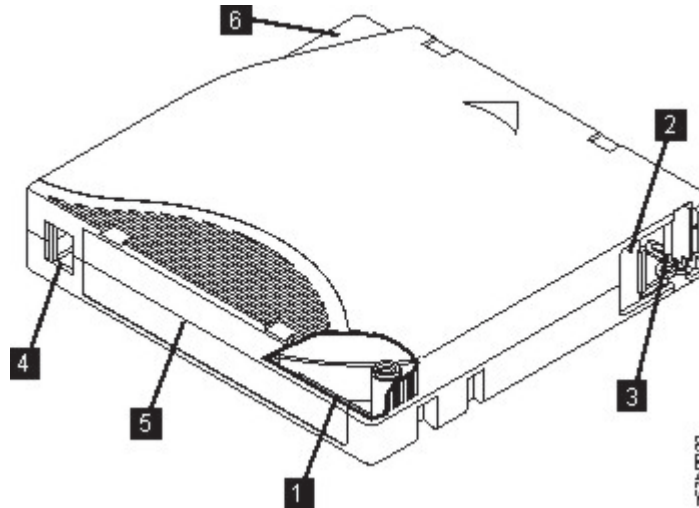

Figure 86. The LTO data cartridge
Figure 86 shows the LTO data cartridge and its components.
The cartridge door (**2** in Figure 86) protects the tape from contamination when the cartridge is out of the drive. The tape is attached to a leader pin (**3** in Figure 86) behind the door. When the cartridge is
The write-protect switch (**4** in Figure 86 on page 143) prevents data from being written to the tape cartridge. For more information, see “Write-Protect switch” on page 147.
The label area (**5** in Figure 86 on page 143) provides a location to place a label. .
The insertion guide (**6** in Figure 86 on page 143) is a large, notched area that prevents the cartridge from being inserted incorrectly.
LTO tape cartridges have a recessed area on the face of the cartridge next to the write-protect switch. Use this area for attaching the adhesive-backed bar code label. Place the label only in the recessed label area (see **5** in Figure 86 on page 143). A label that extends outside of the recessed area can cause loading problems in the drive.
- Position the label within the recessed label area (see **5** in Figure 86 on page 143).